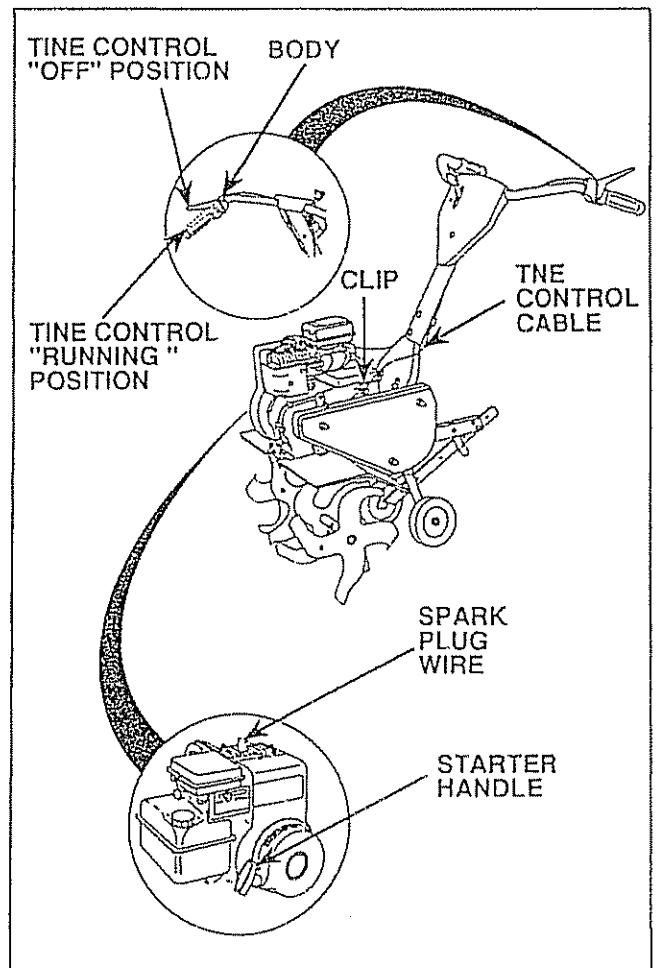

FIGURE 25
- With Tine Control in "OFF" (UP) position, Tine Control Lever should be against Tine Control Body (Fig. 25). If not, loosen Clip and pull Tine Control Cable up. Retighten Clip. If adjustments are made, make sure Tines do not rotate when Tine Control is in "OFF" position. See next step.
- With Tine Control in "OFF" (UP) position, push Tiller Handles down so Tines clear the ground. Pull Starter Handle. Tines should not rotate. If they do, loosen Clip and push Tine Control Cable down. Retighten Clip and test. Readjust if necessary.